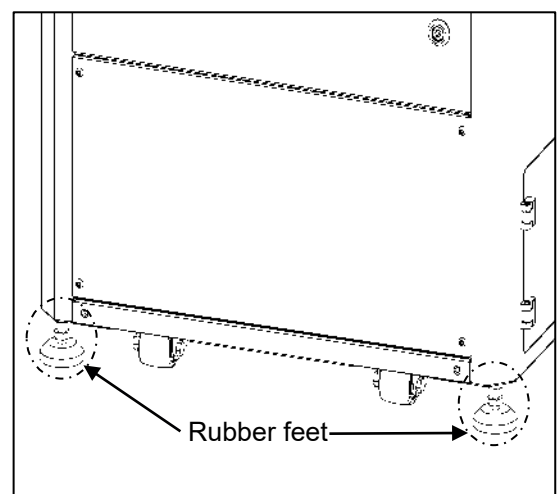

Fig.6
- Once in position, engage the rubber feet to secure the machine and prevent movement during operation (G-800Pro refer to **Fig. 6**, G-700Pro is similar).
- After the machine is in its final position, engage the rubber feet to prevent movement during operation (G-800Pro refer to **Fig. 6**, G-700Pro is similar).